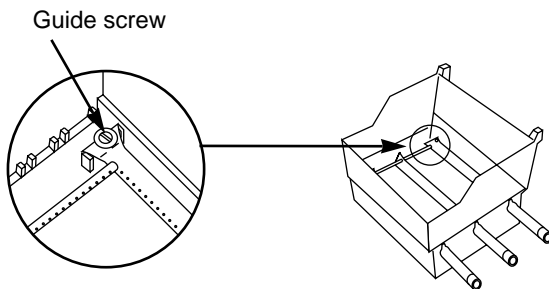

Figure 11
- f) Slide the burner assembly out from under the guide screw and washer in the corners of the cooking box. Figure 11.